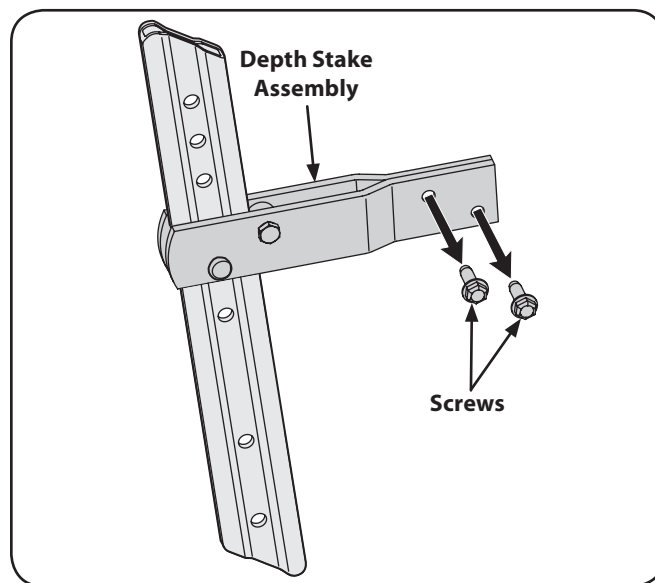

Figure 3-5
- Remove the two screws from the depth stake assembly. See Fig. 3-5.